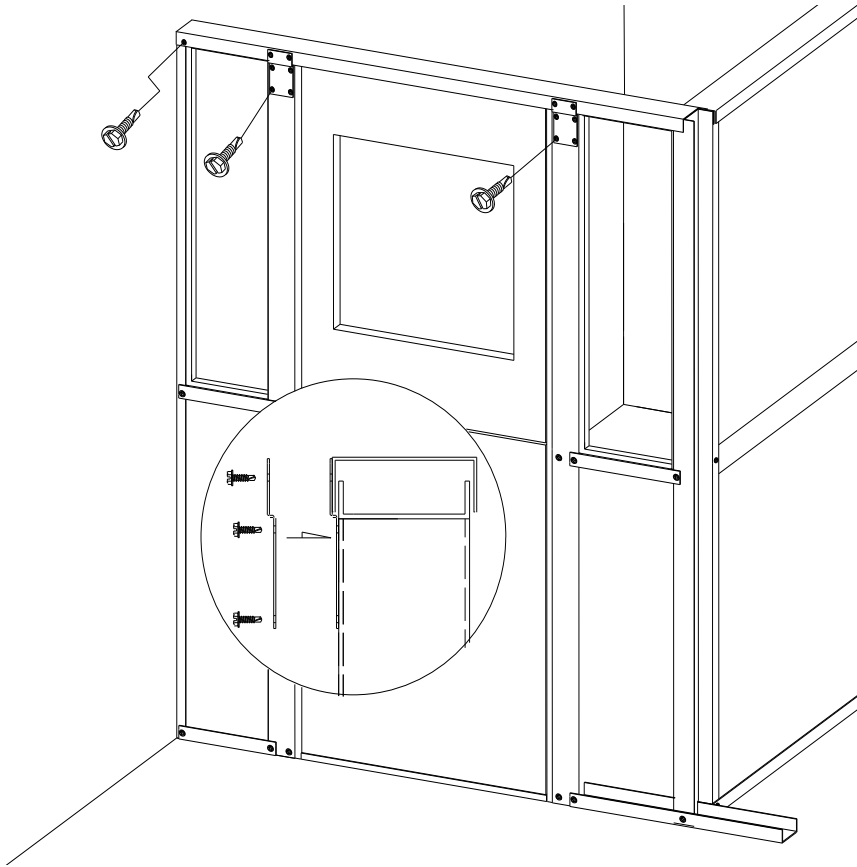

Figure 38
23. Place the appropriate “C” channel onto the top of the front wall. The rear flange should fit over “B” channels and fit into the notches at the top of the “F” channels. Secure as shown in figure 38. Note: the “C” channel must be raised slightly and leveled before fastening. Make sure that the bottom edges of the channel do not interfere with the opening of the door at the top. It is designed to allow some adjustment for level in the system. Secure “C channel to the vertical extrusions using the supplied offset plates as shown. Do not use the offset plates on the end where the system attaches to walls.